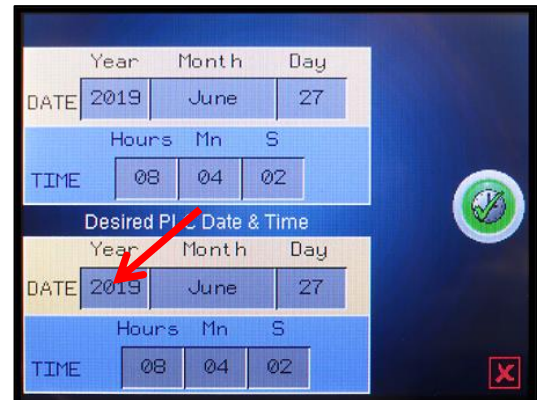

Figure 72
5. To adjust the year, press inside the **Year** box (arrow), Fig. 72.